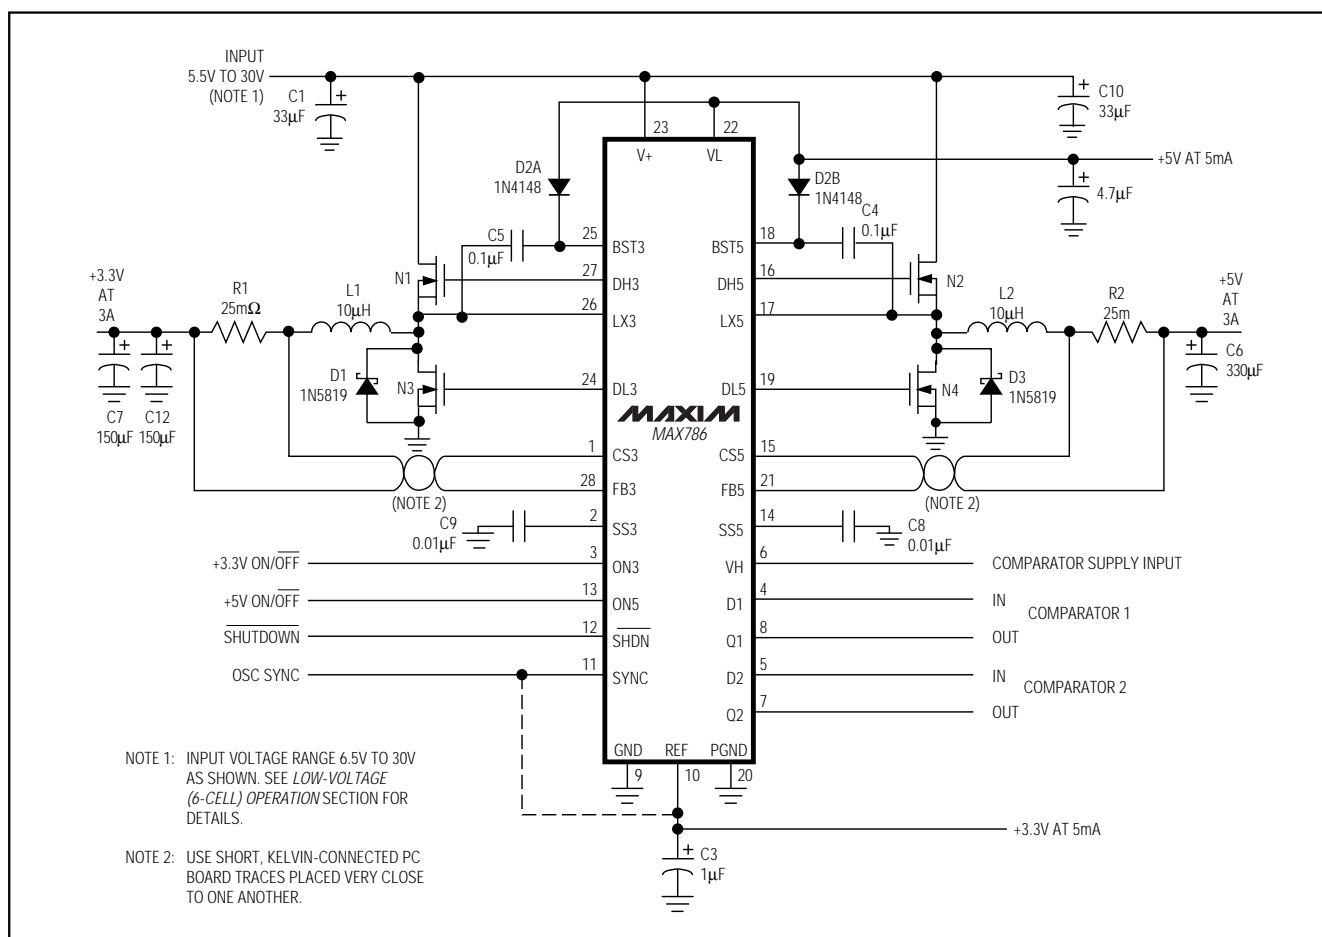
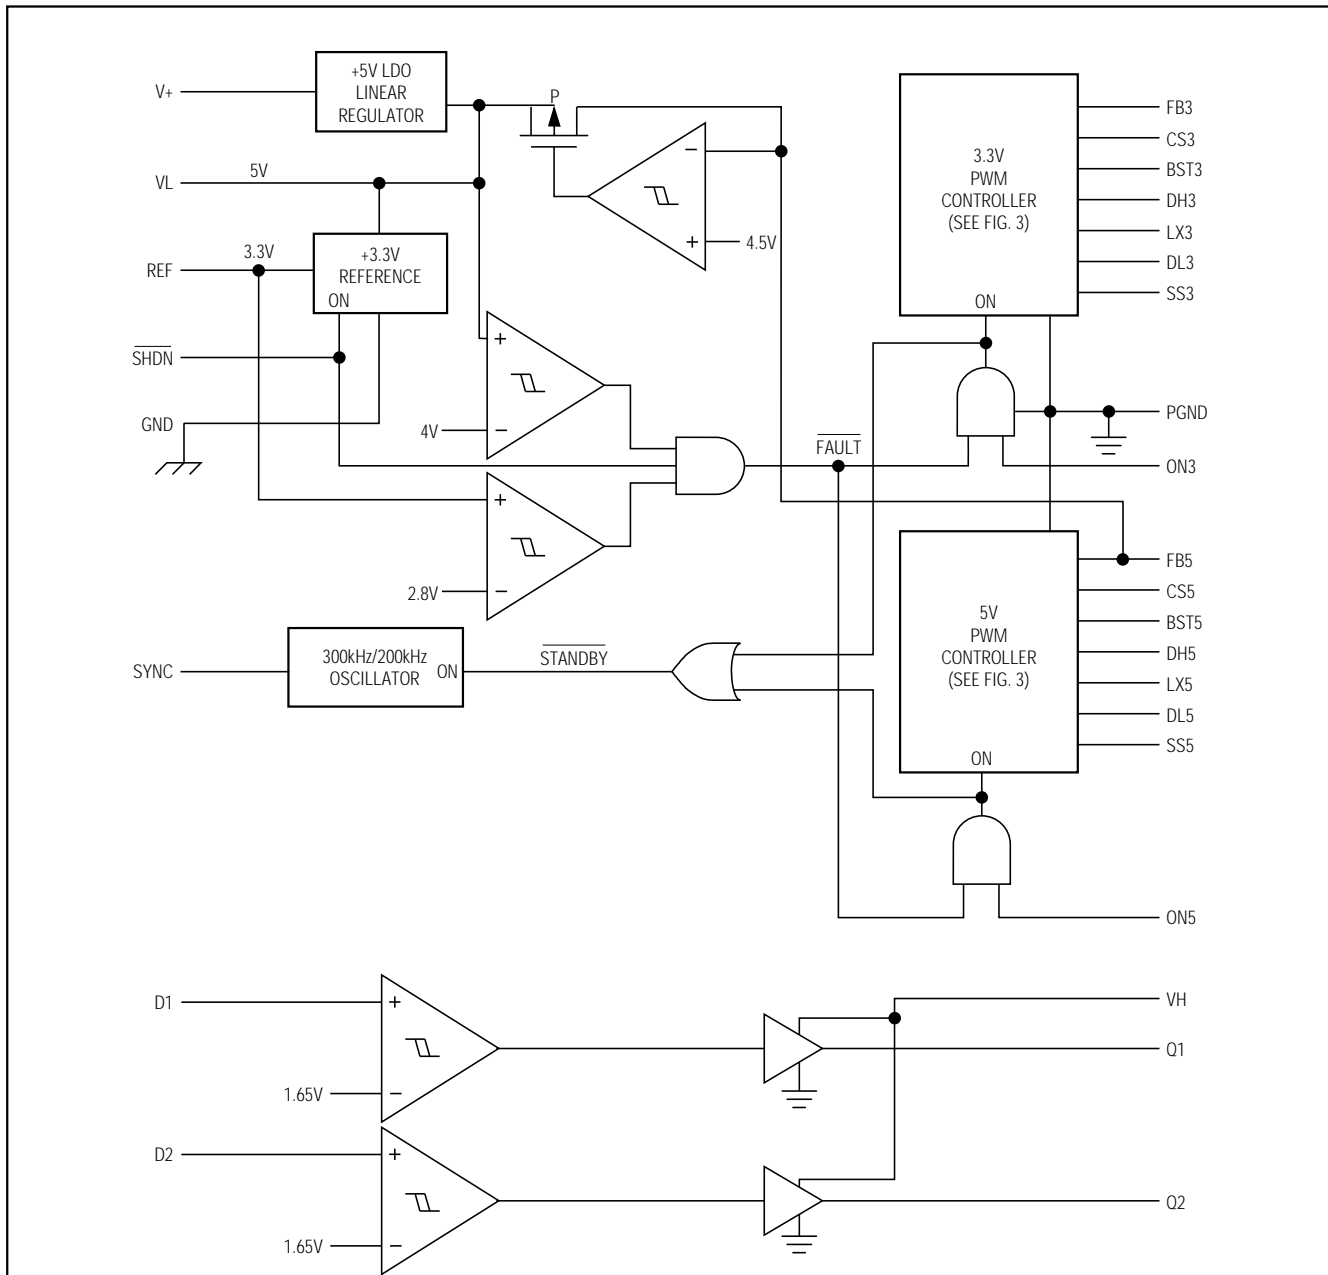

Figure 1. MAX786 Application Circuit
Figure 2. MAX786 Block Diagram
(Circuit of Figure 1, $T_A = +25^\circ\text{C}$, unless otherwise noted.)
The MAX786 converts a 5.5V to 30V input to four outputs (Figure 1). It produces two high-power, PWM, switch-mode supplies, one at +5V and the other at +3.3V. The two supplies operate at either 300kHz or 200kHz, allowing for small external components. Output current capability depends on external components, and can exceed 6A on each supply. An internal 5V, 5mA supply (VL) and a 3.3V, 5mA reference voltage are also generated via linear regulators, as shown in Figure 2. Fault protection circuitry shuts off the PWMs when the internal supplies lose regulation.
The +3.3V supply is generated by a current-mode, PWM step-down regulator using two N-channel MOSFETs, a rectifier, and an LC output filter (Figure 1). The gate-drive signal to the high-side MOSFET, which must exceed the battery voltage, is provided by a boost circuit that uses a 100nF capacitor connected to BST3.
The +5V output is produced by a current-mode, PWM step-down regulator, which is nearly identical to the +3.3V supply. The +5V supply's dropout voltage, as configured in Figure 1, is typically 400mV at 2A. As V_+ approaches 5V, the +5V output gracefully falls with V_+ until the VL regulator output hits its undervoltage-lockout threshold at 4V. At this point, the +5V supply turns off.
(See Figure 1 for Standard Application Circuit.)
Figure 1's schematic and Table 2's component list show values suitable for a 3A, +5V supply and a 3A, +3.3V supply. This circuit operates with input voltages from 6.5V to 30V, and maintains high efficiency with output currents between 5mA and 3A (see the *Typical Operating Characteristics*). This circuit's components may be changed if the design guidelines described in this section are used—but before beginning the design, the following information should be firmly established: